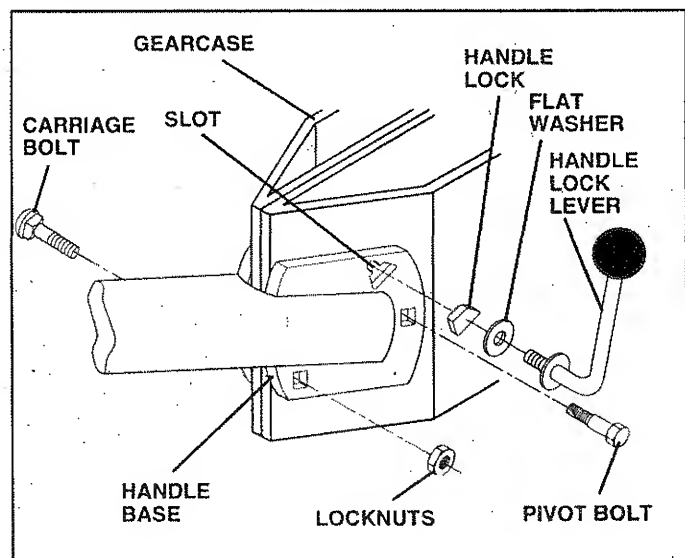

FIG. 5
- Rotate handle assembly down. Insert rear carriage bolt first, with head of bolt on L.H. side of tiller and loosely assemble locknut. (See Fig. 5)